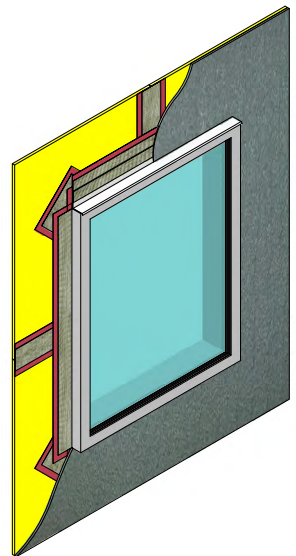

Figure 30
9. Apply Senersshield-R/-RS/-VB per the product bulletin instructions over the substrate. (See Figure 30)